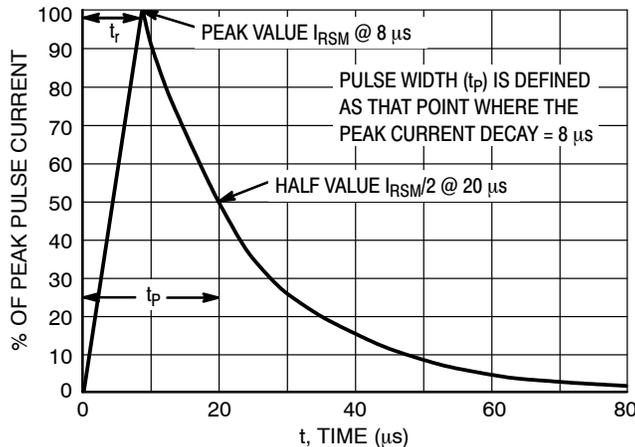

Figure 5. 8 x 20 μs Pulse Waveform
1. Non-repetitive current pulse per Figure 5 (Pin 5 to Pin 2)
- Non-repetitive current pulse per Figure 5 (Any I/O Pin to Ground)